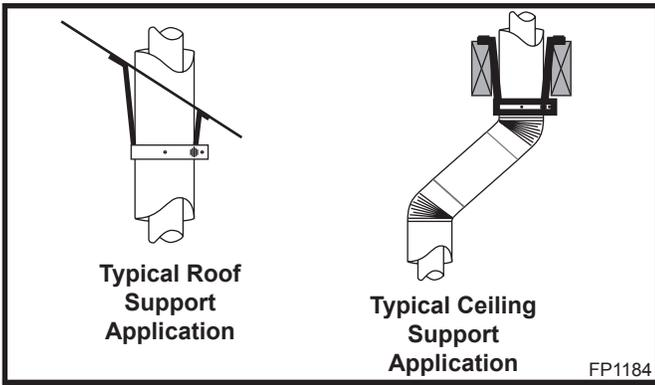

Fig. 43 Venting supports.
- 7DVCS supports offsets. (Fig. 43) This application will require that you first determine the roof pitch and use the appropriate starter kit. (Refer to Venting Components List)
7. Install roof support (Fig. 43) and roof flashing making sure upper flange is below the shingles. (Fig. 45)